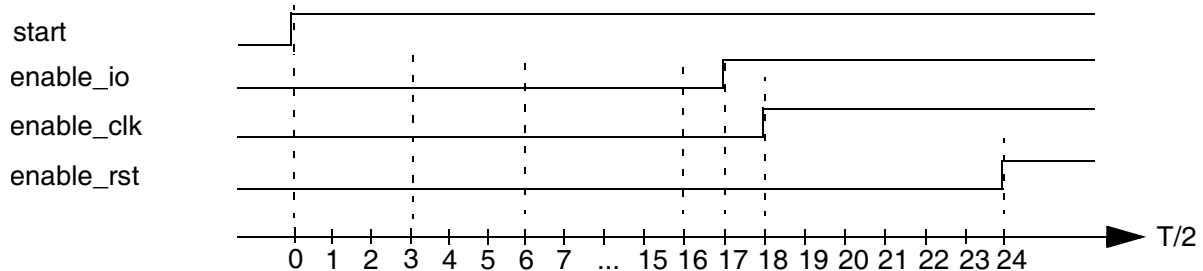
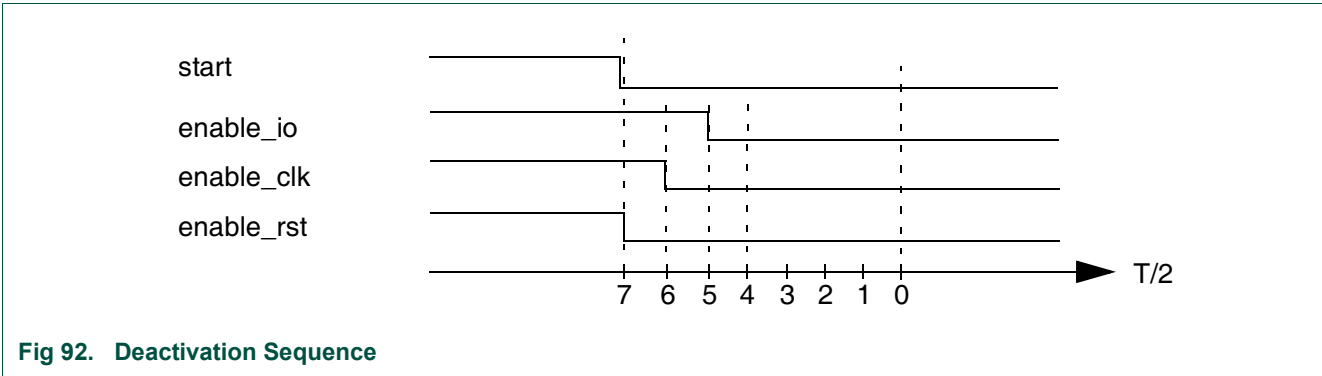

Fig 91. Activation Sequence
Fig 92. Deactivation Sequence
- The activation sequence is stopped between 0 and the rising of `enable_io` on Figure 91. The deactivation sequence will start from $4T/2$ on Figure 92 and go to 0.
- The activation sequence is stopped between the rising of `enable_io` and the rising of `enable_rst` on Figure 91. The deactivation sequence will start from $6T/2$ on Figure 92 and go to 0.
- The activation sequence is stopped after the rising of `enable_rst` on Figure 91. It is the normal case: the deactivation sequence will start from $7T/2$ on Figure 92 and go to 0.